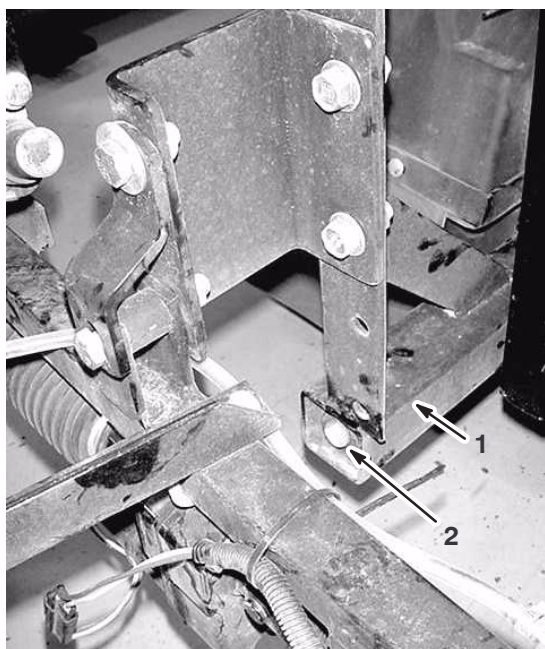

Figure 1
1. Loosen the 2 bolts securing the boom frame to the vehicle. Back the boom frame out 2 inches (Fig. 1) to allow for installation of hose reel supports.
5. Slide the boom frame in so that there is 1-1/2 inches (4 cm) of clearance between it and the vehicle or hose reel frames (Fig. 1).
6. Tighten the boom frame bolts (Fig. 1) until the clearance between the boom frame and the vehicle or hose reel frame is 1 inch (2.5 cm).